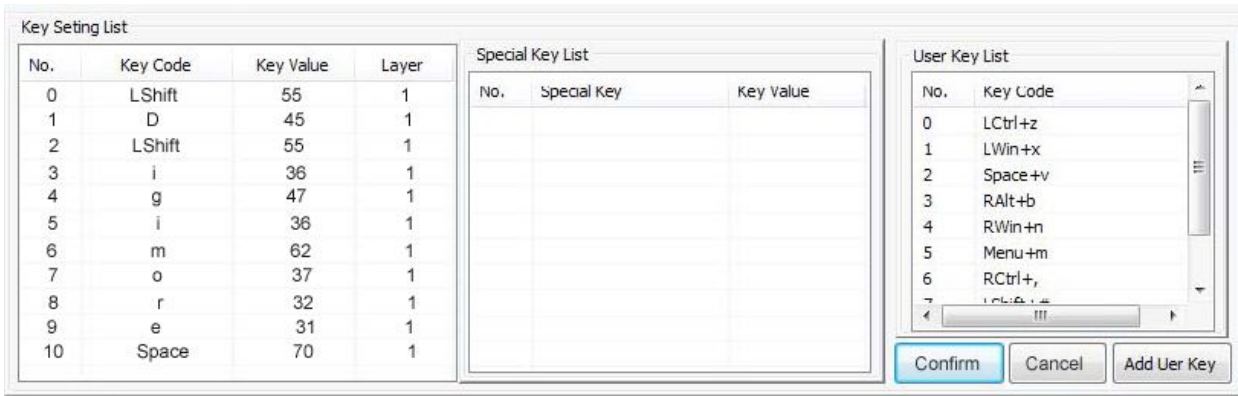

Figure 3.2.1
**Step 2.** Click “LShift” and “d”. You will see the key code will be capital “ D ” not “ d ”, please refer to *Figure 3.2.1*